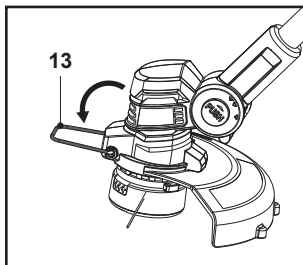

Fig. 11, trimming / edging position
1. Rotate the plant protector (13) forward until it locks in place for trimming / edging operation (Fig. 11).